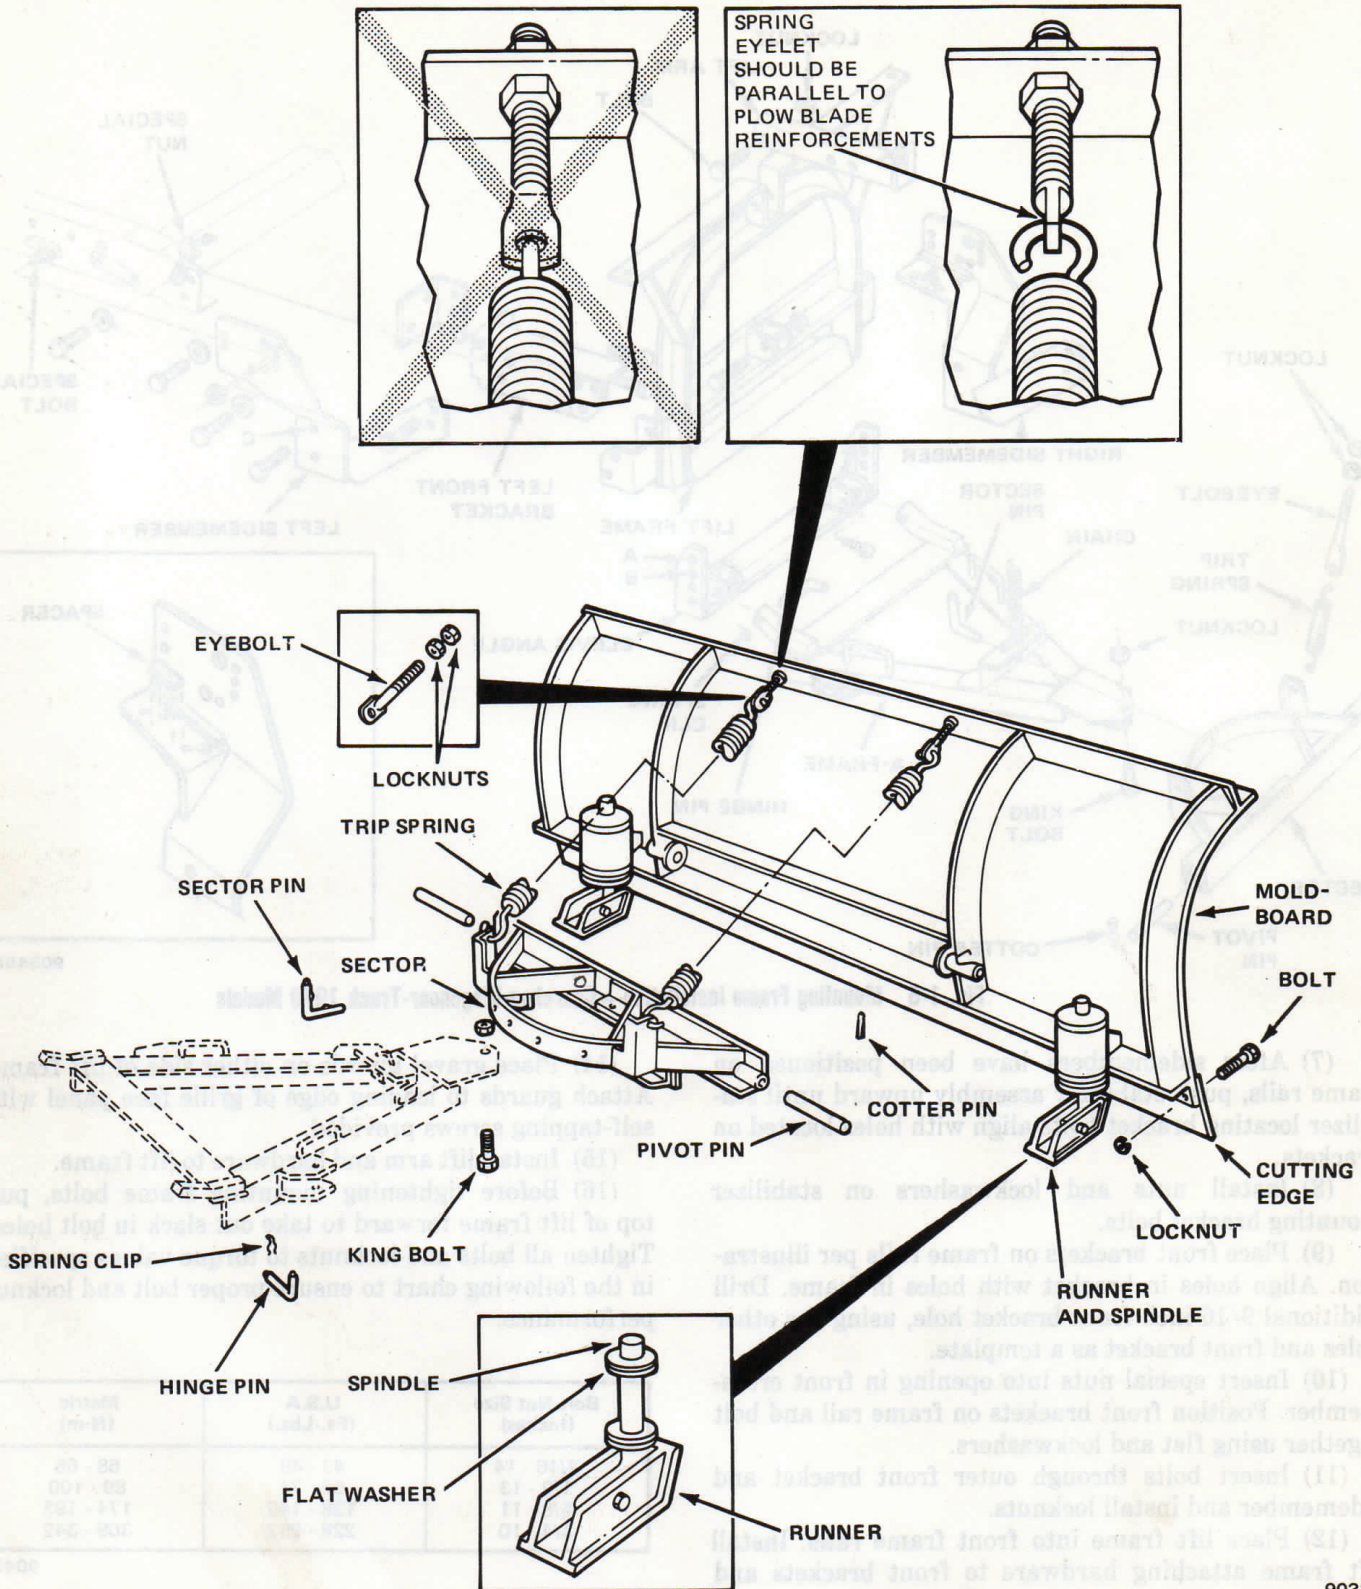

Fig. 1-7 Moldboard and Sector—Components and Installation
(1) Attach sector to moldboard assembly with pivot pins and cotter pins (fig. 1-7). Lubricate pivot pins with brake support plate lubricant 8992356 or equivalent before installing.